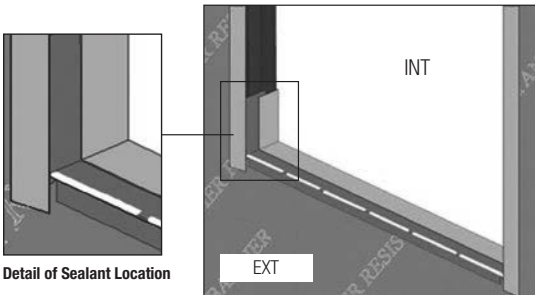

FIG. 12
- G) Apply sealant to sill: Apply a discontinuous bead of sealant at the top of the sill along the edge of the rough opening. Alternate using a 6" long bead with 1" gaps as shown below. (Fig. 12)